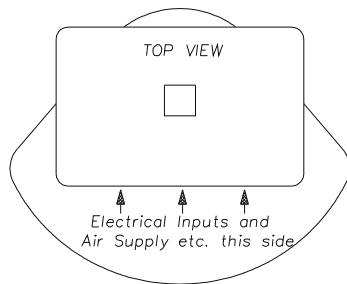

FIGURE 1. Mid Travel Orientation of Actuator Square and Positioner Box.
3.1.1 Move actuator vane to mid travel position, with its output square as shown in Figure 1. This is essential to prevent subsequent error in orienting positioner square.
3.1.3 Bolt the positioner body to the actuator in the orientation shown in Figure 1, taking care that O-rings are in place to seal the ports into the actuator, and that the actuator shaft is centred in its hole.